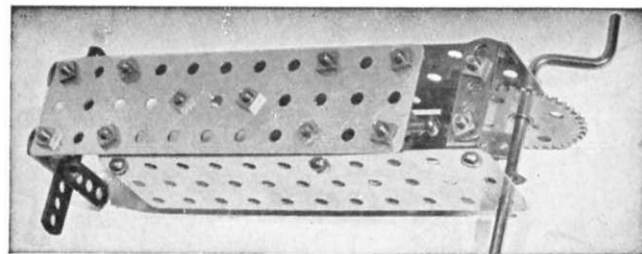

Fig. 1
Building the model should begin with the battery container. The container is shown in Figures 1 and 2. The bottom of the container is an (MF) 1" x 5" base plate. The sides are (MF) 1" x 5" base plates fastened to the bottom base plate with (MO) 3" angle girder on the inside. On the rear overhanging end of the bottom 1" x 5" base plate is fastened 2 (CH) right angles, 2 (G) 7 hole strips to the right angles and a cross piece, a (BY) 11 hole fibre strip, as shown in Figure 2.